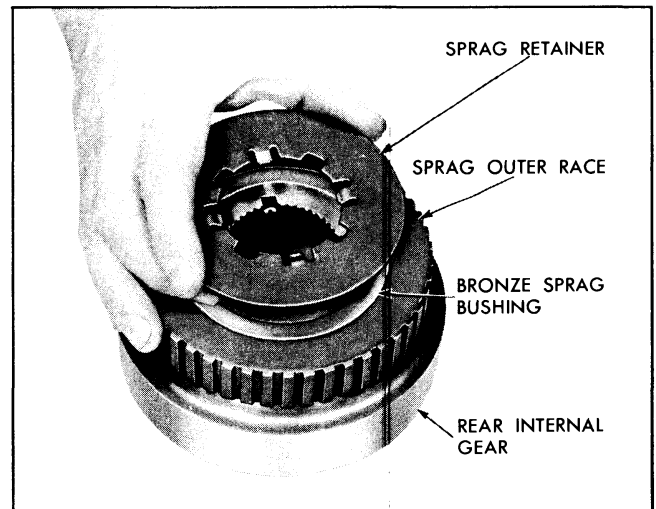

Fig. 7C-89 Removing Sprag Retainer
12. Install reverse piston, aligning piston to index with dowel pins (Fig. 7C-88).